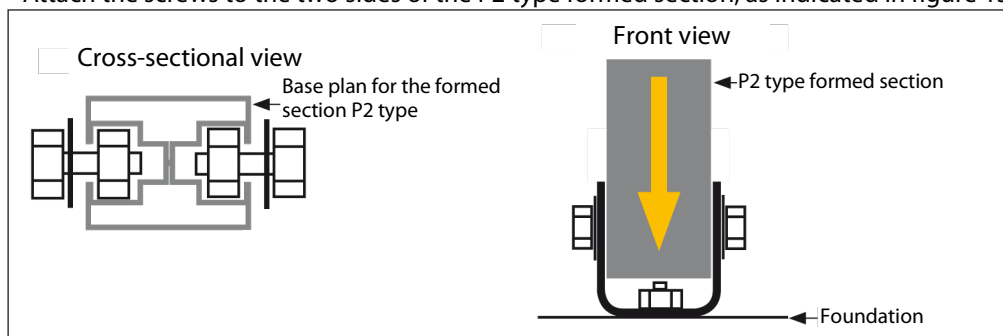

Figure 15
- Attach the screws to the two sides of the P2 type formed section, as indicated in figure 15
- Mount the Profile P4 into the U-Profile like shown in figure 15 (angle is not so important yet and will be arranged in the next steps automatically)